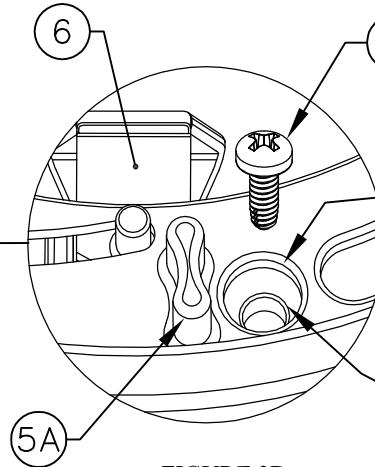

FIGURE 3B
- 3.) On the top surface of the adjustable ring (5) next to the finger tabs (5A) there are 3 equally spaced access holes. These holes provide access to the dispenser mounting holes on the mounting ring (8) (See Figure 3B).
- 5.) Slide the dispenser back into the counter and secure using mounting screws (7) provided (See Figure 3B).